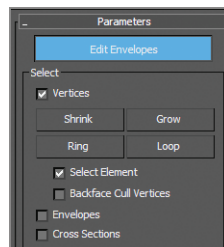

FIGURE 12.25
1. Select Edit Elements, and in the Select section of Skin modifier's Parameters rollout, uncheck Envelopes and Cross Sections. Check Vertices and Select Element, as shown in Figure 12.25.